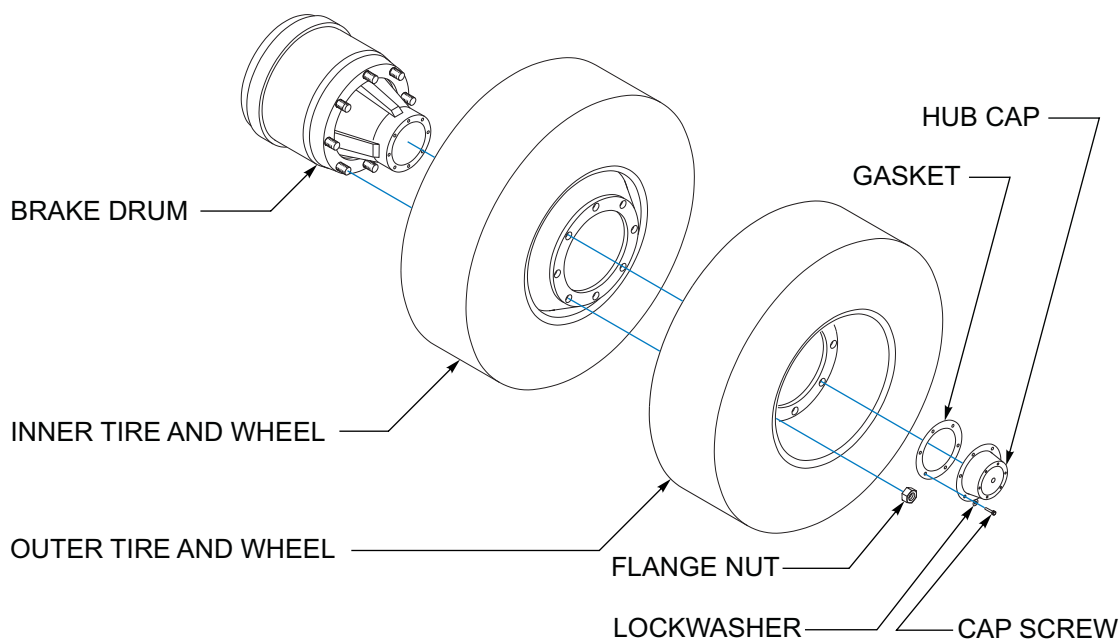

Figure 4-20: Mounting Tires and Wheels
1. Make sure that all mounting surfaces are clean and free of rust, dirt or paint. A wire brush may be used to clean these surfaces (*See Figure 4-20.*)
4. Install the flange nut and tighten to 50 foot-pounds using the sequence in (**Figure 4-20.**) Then tighten to full torque of 450 to 500 foot-pounds.